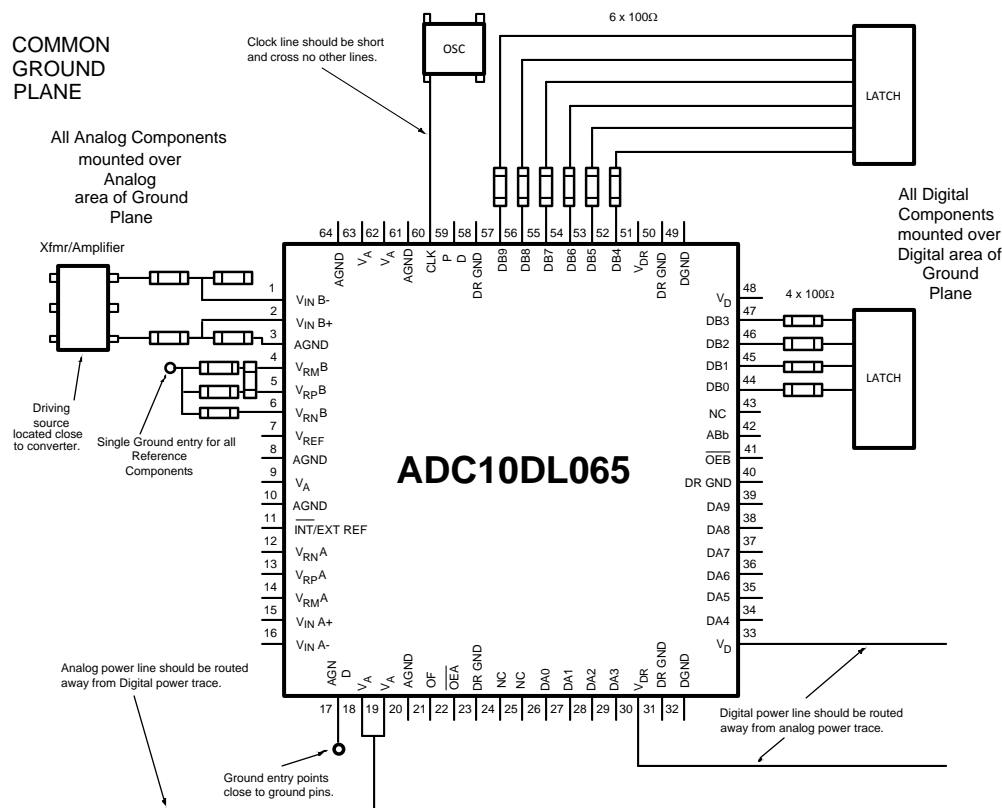

Figure 39. Example of a Suitable Layout
**Figure 39** gives an example of a suitable layout. All analog circuitry (input amplifiers, filters, reference components, etc.) should be placed in the analog area of the board. All digital circuitry and I/O lines should be placed in the digital area of the board. The ADC10DL065 should be between these two areas. Furthermore, all components in the reference circuitry and the input signal chain that are connected to ground should be connected together with short traces and enter the ground plane at a single, quiet point. All ground connections should have a low inductance path to ground.